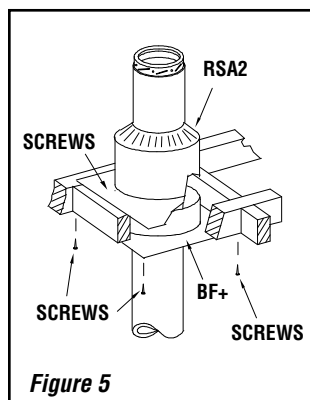

Figure 5
Step 7. At the attic level, install a firestop plate (BF+), from below and an attic radiation shield (RSA2) from above (see figure 5). Install the roof radiation shield in the roof joists. This shield consists of four metal plates supplied with the roof flashing. Nail one plate to each side of the joist using (2) - 2 1/2" nails.